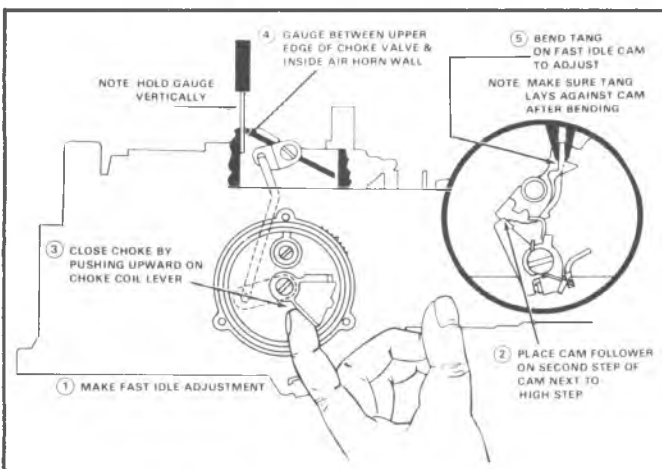

Fig. 47—Fast Idle Cam (Choke Rod) Adjustment
**FAST IDLE CAM (CHOKE ROD) ADJUSTMENT (Fig. 47)**